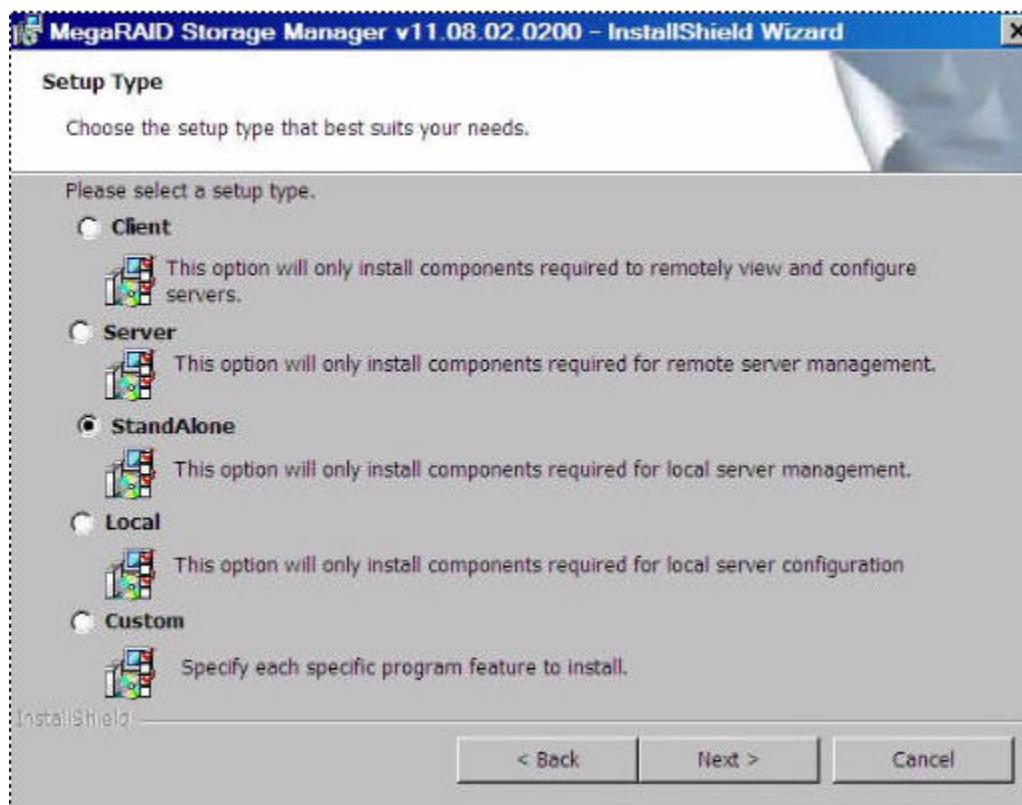

Figure 141 Custom Setup Window
- If you select **Custom Installation** as your setup option, the second **Setup Type** dialog appears, as shown in Figure 141. If you select **Complete** as your setup option, the LDAP Login Information appears.